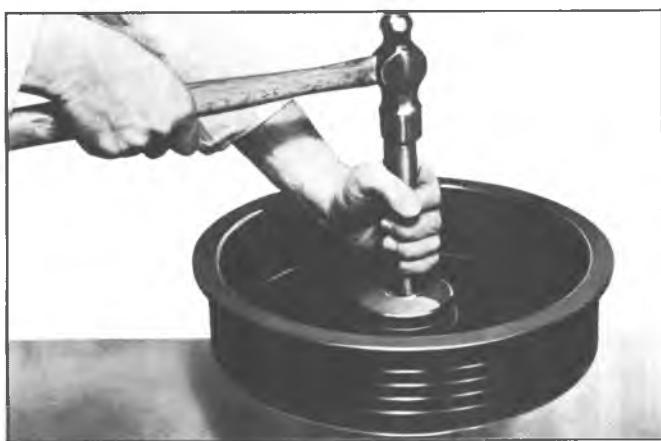

Fig. 73—Installing Hub Inner Bearing Cup
5. To install **inner** bearing, use J-8093 with Handle J-8092 to drive cup into hub bore, as shown in figure 73.